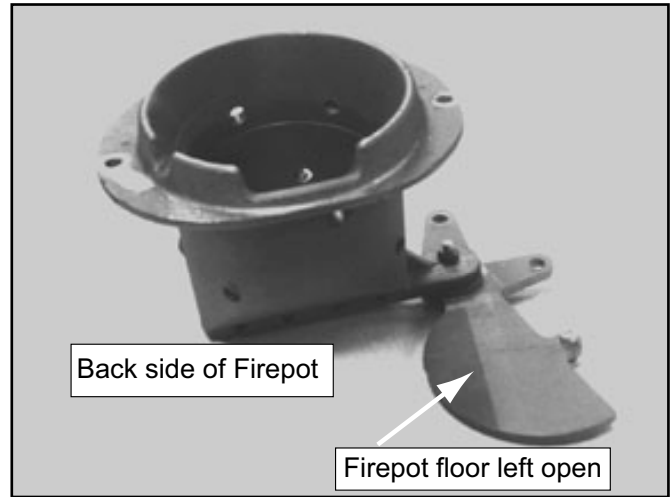

Figure 23.1 - DO NOT LEAVE FIREPOT FLOOR OPEN
- c. The firepot floor plate must be fully closed when finished. **See Figure 23.1 on page 23.**